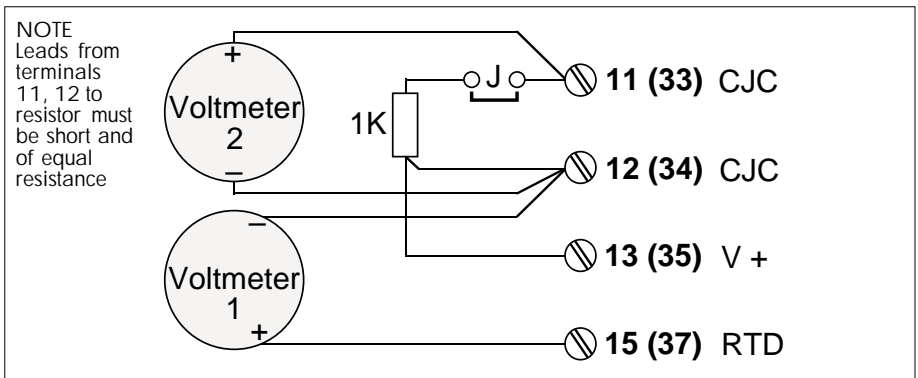

Figure 13-3 CJC calibration setup
- 11 Connect up the instrument as shown in Figure 13-3, with the jumper link J removed. Then increment ST to '8'.